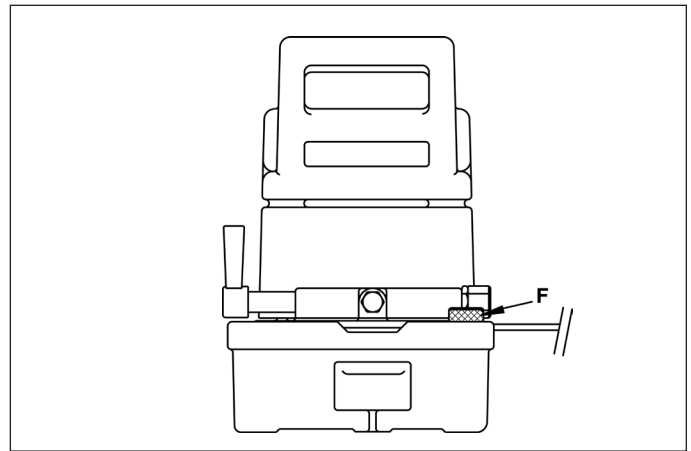

Figure 6
3. Mount the valve (3), taking care to avoid shearing the seals.
4.3 Adding Oil (Figure 6)